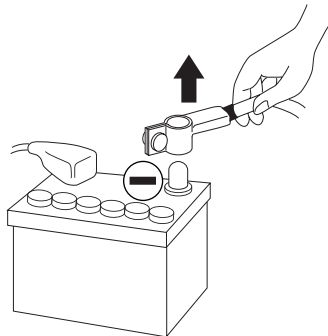

fig. 1
- **Before beginning installation, disconnect the negative terminal of the battery to avoid any risk of injury, fire or material damage. (fig. 1)**
- 2 - Disconnect the negative terminal of the battery before beginning the installation. **(fig.1)**